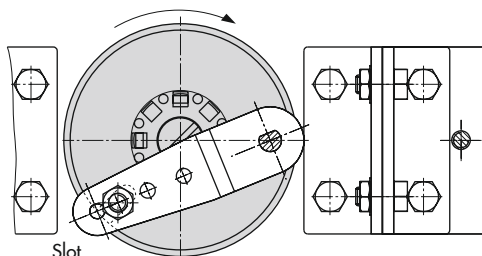

Fig. 5-23: Attachment to rotary actuators
- ➔ See Fig. 5-23
1. Place follower clamp (3) on the slotted actuator shaft or spacer (5).
2. Place coupling wheel (4) with flat side facing the actuator on the follower clamp (3). Align slot so that it matches the direction of rotation when the valve is in its closed position (see Fig. 5-23).
3. Fasten the coupling wheel (4) and follower clamp (3) tightly onto the actuator shaft using screw (4.1) and disk spring (4.2).
4. Fasten the bottom pair of brackets (10.1) with the bends pointing either facing to the inside or to the outside (depending on the actuator size) onto the actuator housing. Position the top pair of brackets (10) and fasten.
5. Mount connecting plate (6) or pressure gauge bracket (7) with pressure gauges on the positioner. Make sure that the two seals (6.1) are seated properly. Double-acting springless rotary actuators require the use of a reversing amplifier on the connection side of the positioner housing (see section 5.6.7).
6. Unscrew the standard follower pin (2) from the positioner's **M** lever (1). Use the metal follower pin (\varnothing 5 mm) included in the mounting kit and screw tight into the hole for pin position **90°**.
7. Place positioner on the top bracket (10) and fasten tight. Taking the actuator's direction of rotation into account, adjust lever (1) so that it engages in the slot of the coupling wheel (4) with its follower pin (Fig. 5-23). It must be guaranteed that the lever (1) is parallel to the long side of the positioner when the actuator is at half its angle of rotation.
Legend for Fig. 5-22 and Fig. 5-23